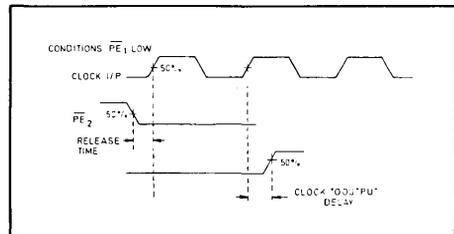

Fig. 4 Release timing diagram
- Release time is defined as the minimum time that can elapse between a H→L transition of a control input and the next L→H clock pulse transition to ensure that the  $\bar{6}$  mode is forced by that clock pulse (see Fig. 4).